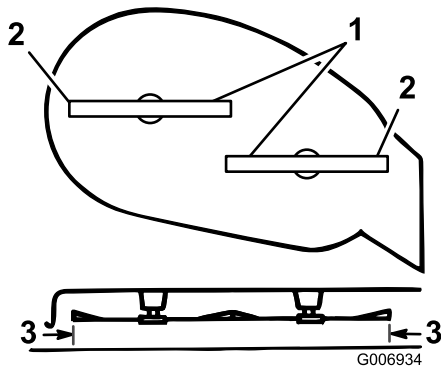

Figure 46
5. Carefully rotate the blades side to side (Figure 46).
6. Measure between the outside cutting edges and the flat surface (Figure 46). If both measurements are not within 3/16 inch (5 mm), adjust them; refer to 7 through 10.